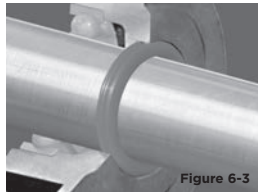

Figure 6-3
4. Push the oil seal evenly into the oil seal position so that the split is perpendicular to the shaft and make the interface symmetrical in the upward position (Figure 6-3).